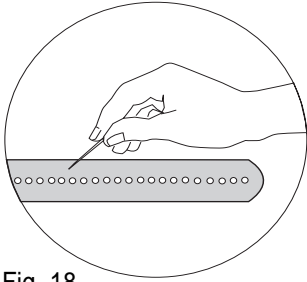
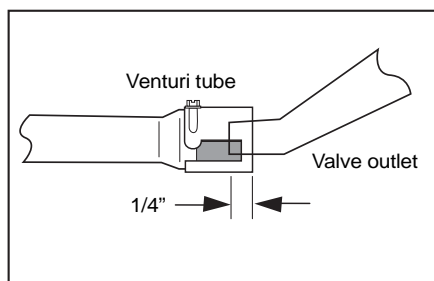

Fig. 18
Fig. 22
- Reinstall the burners properly over the valves (see Fig. 22). Use a wire brush or toothpick to clean the ports all around the sides of the burner (see Fig. 18). It is normal for some surface rust to appear on the burner. Severe rusting can enlarge the gas ports, however, which could cause changes in the Grill's performance.
- Use a wire brush to clean all ports on the sides of the burner (see Fig. 18).
If burners are removed for cleaning or adjustment, always confirm that they have been reinstalled correctly over the valve outlets (see Fig. 22). The valves should extend into the burner venturis approximately $\frac{1}{4}$ ".
Blockage in the gas system	Confirm that the venturi tubes are not blocked by insects or other debris. Use a special venturi brush to clean (Fig. 16). Use a pin or needle to carefully probe the orifice in the gas valve. Never enlarge the orifice (Fig. 18).
Misalignment of the gas valve to the venturi tubes of the burner. Improper attachment of the propane hose and regulator	Look under the front control panel and reinsert the gas injector into the venturi tube, if required (Fig. 22). Tighten the regulator's plastic collar onto the cylinder valve. Hand-tighten only (Fig. 4).